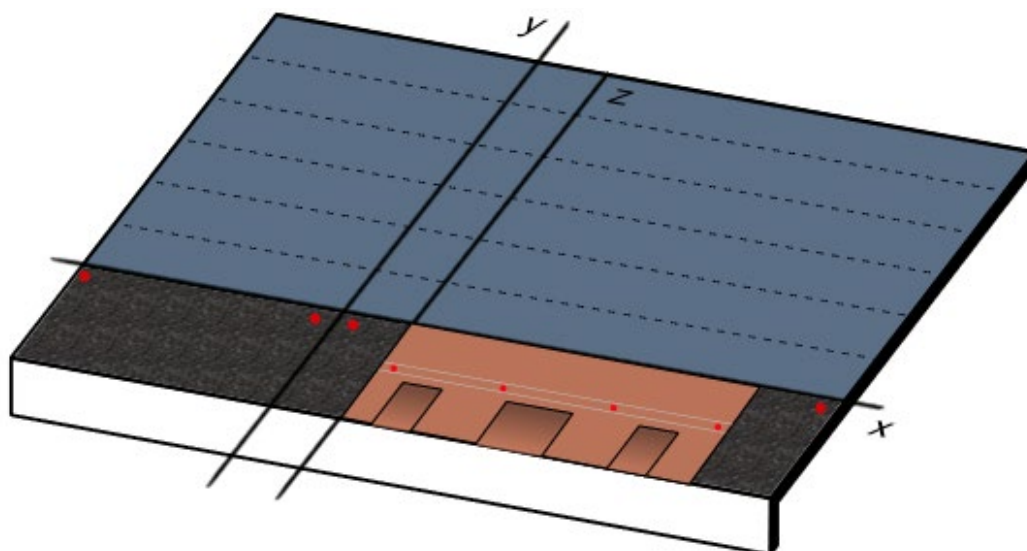
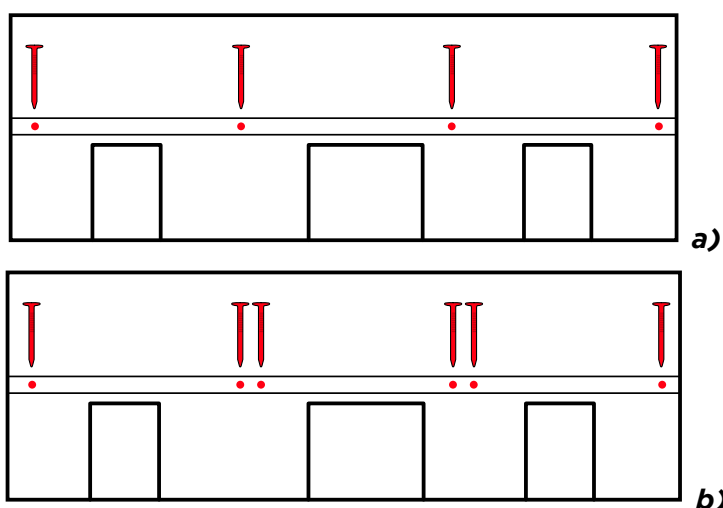

Fig. 7 - Shingles installation
Fig. 8 - Shingle nailing a) slopes <60°; b) slopes >60°
- Then, proceed with the installation of the shingles of the starting row: align the lateral edge of the Start Line SA on the vertical **y** and the upper edge on the horizontal **x**. Remove the protective backing film and fix the Start Line SA with nails placed at the upper ends. – Fig. 7. Position and nail the Start Line SA adjacent to each other, until all the pitch is completed.
- Proceed with the installation of the first row of shingles: align the lateral edge of the first shingle on the vertical **z** and the upper edge on the horizontal **x** – Fig. 7. Nail the shingle to the substrate by placing 4 nails per shingle, between the two white lines, as per Fig. 8 a). In the event of pitched slopes between 60° and 85°, place 2 additional nails close to the second and third nail, for a total of 6 nails per shingle, as per Fig. 8 b). Proceed by placing all the shingles in the first row.